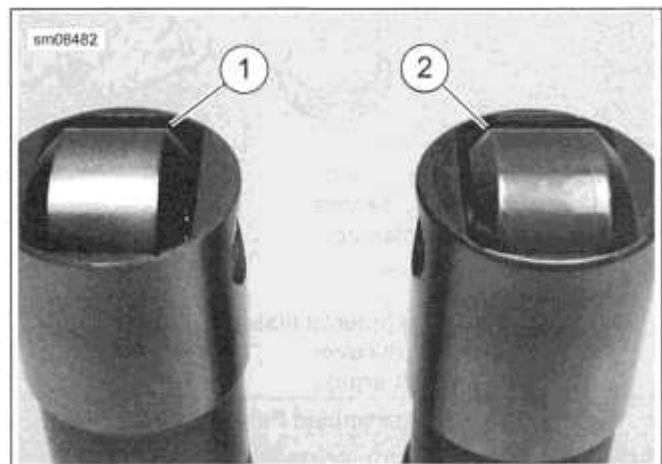

Figure 4-26. Roller Inspection
- c. See Figure 4-26. A dull lifter roller surface is called frosting (2). Frosting is a cosmetic condition and does not affect function.